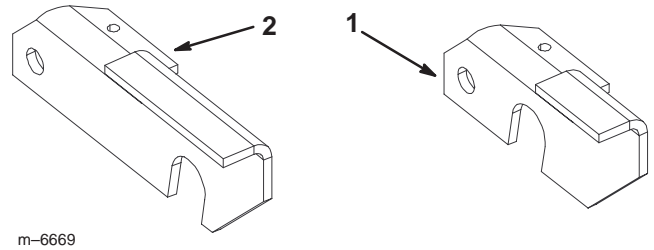

Figure 11
4. Select the appropriate latch. Refer to Figure 11 for the correct latch.